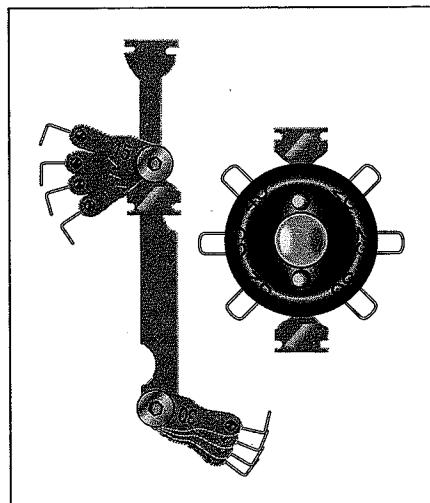

Figure 2-14:
- ✓ **Wire and taper feeler gauges:** You use these gauges for gapping spark plugs (see Figures 2-14 and 2-15). Gapping simply means sliding the proper-sized wire or taper gauge between the spark plug electrodes to make sure that the surfaces are the proper distance apart. Doing so ensures that the spark can jump across the gap with the proper intensity.